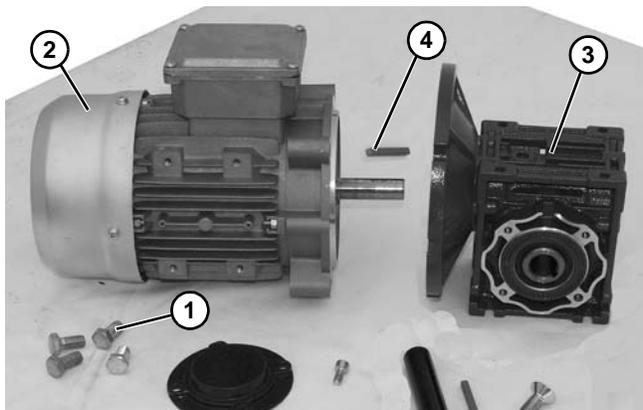

Figure 21
- Remove four screws (**Figure 21, item 1**). Detach motor (**Figure 21, item 2**) from gear reducer (**Figure 21, item 3**). Retain shaft key (**Figure 21, item 4**).
- Apply anti-seize to motor shaft before assembling to gearbox. With key (Figure 21, item 4) in keyway, slide motor (Figure 21, item 2) and gear reducer (Figure 21, item 3) together. Install screws (Figure 21, item 1) and tighten.